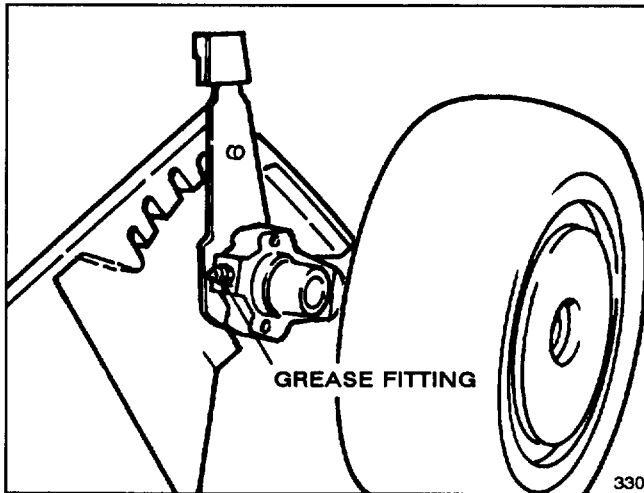

Figure 19
2. **GREASE FRONT AXLE PIVOTS** (Fig. 19) (models 16401 & 16402 only)—Adjust height-of-cut to 3-inch setting and loosen wheel bolt to get additional clearance around grease fitting. Wipe grease fittings with clean rag. Install grease gun onto fitting and gently apply 2 or 3 pumps of #2 Multi-Purpose Lithium Base Grease.